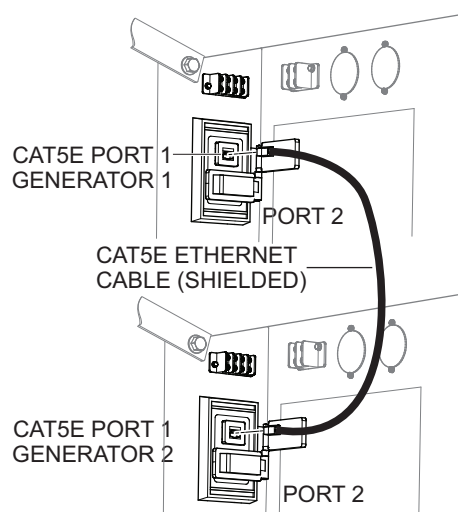

Figure 4. Ethernet Cable Connection
1. Connect a CAT5E Ethernet cable (shielded) between port 1 on both generators as shown in Figure 4.